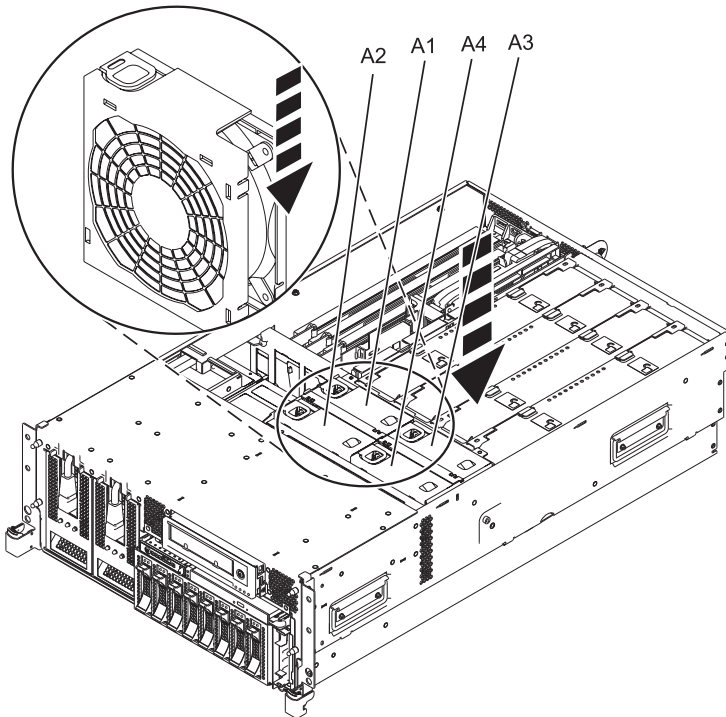

Figure 18. Installing the fans
- a. Lower the fan into its location in the fan cage. See Figure 18 on page 23.